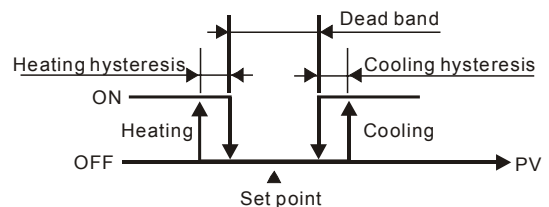

Figure 1. Output operation of ON/OFF control during dual loop output control
**[ dERd ]** Dead Band, shown in figures 1, 2 and 3. This parameter sets an area in which the heating and cooling control output is 0 centering around the set point in a Dual Loop output control mode.